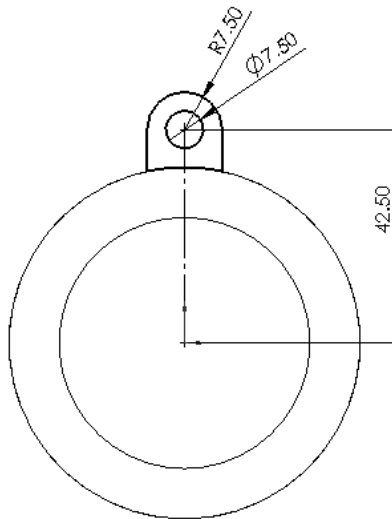

Figure 9-68 Sketch of the third feature
- Draw the sketch on the **Top Plane** and extrude it to the given distance, refer to Figure 9-68.
3. Draw the sketch of the third feature and add the required relations and dimensions to the sketch, as shown in Figure 9-68.